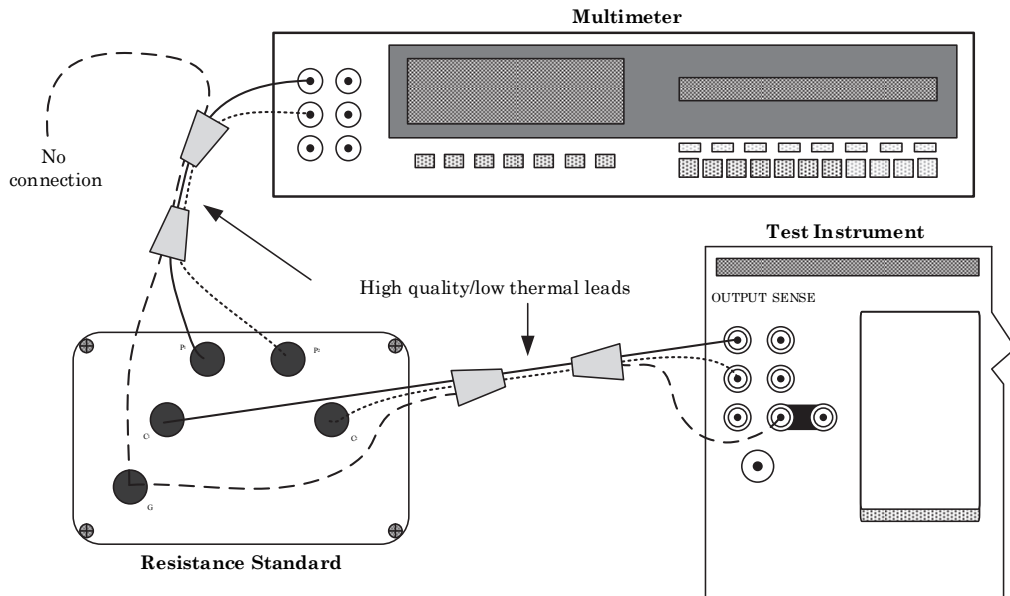

Figure 8. DCI Verification Connection.
- (3) Set multimeter to DCV, RESL 7, FAST OFF, FILT ON, Internal Guard.
- (4) Zero multimeter on the 20 V dc, 2 V dc and 200 mV dc ranges.
- (5) Set multimeter range to AUTO.
- (6) Connect equipment as shown in figure 8 using the first resistance standard in table 7.